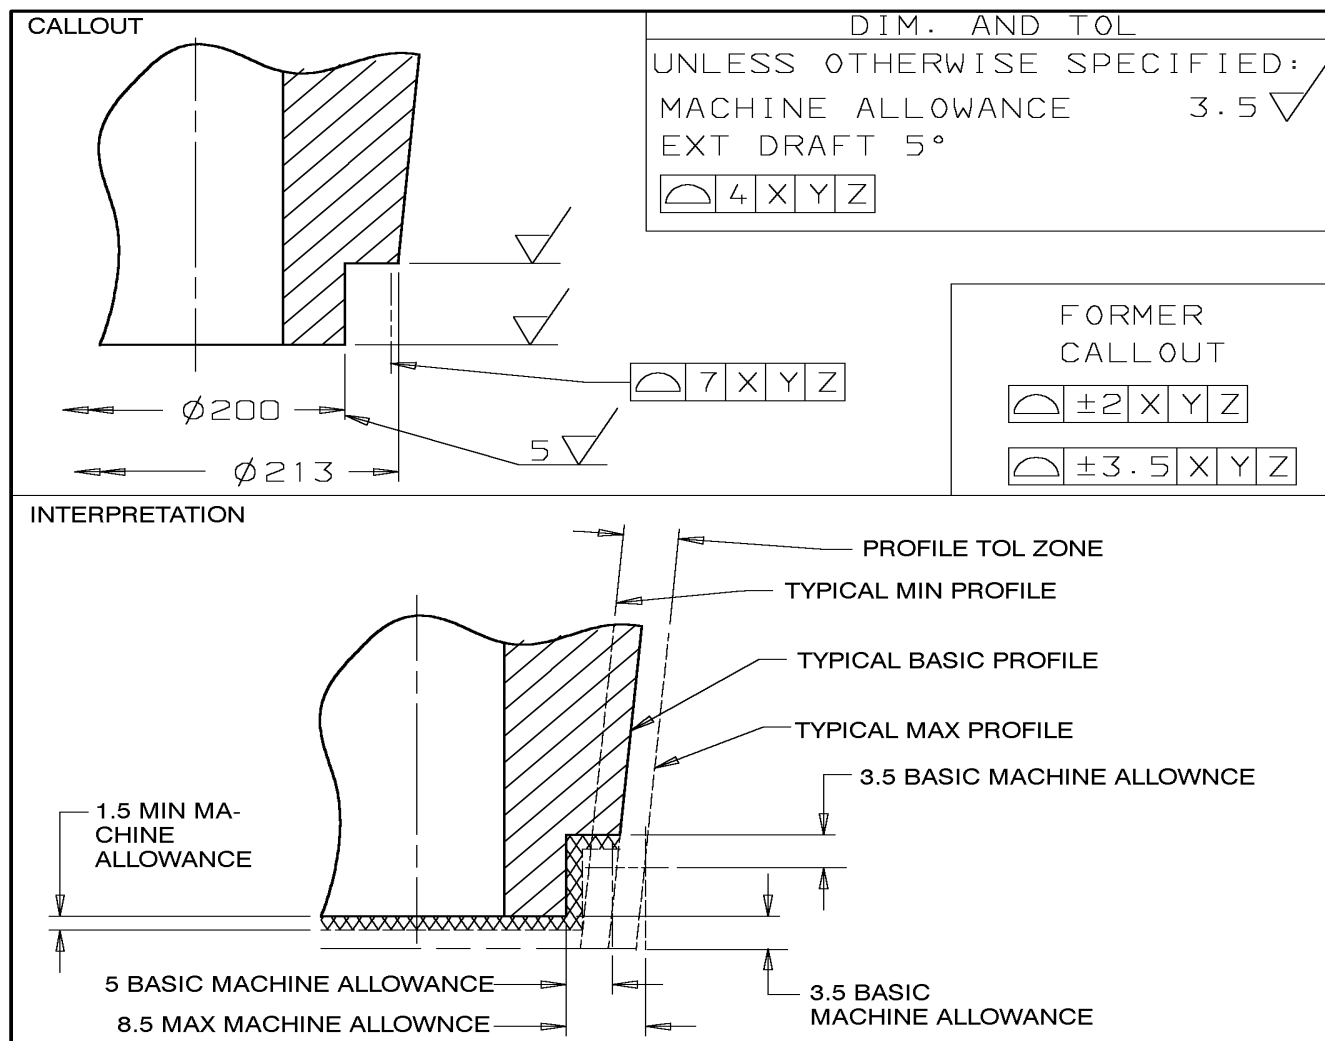

Figure 16 - Machine Allowance/Draft - Non-Parted Surface
**10.6 Draft - Non Parted Surface -** Figure 16 illustrates machine allowance on a drafted surface where the machined surface does not cross the parting line, such as the surface which is machined on the end of a hub to accommodate a bearing.